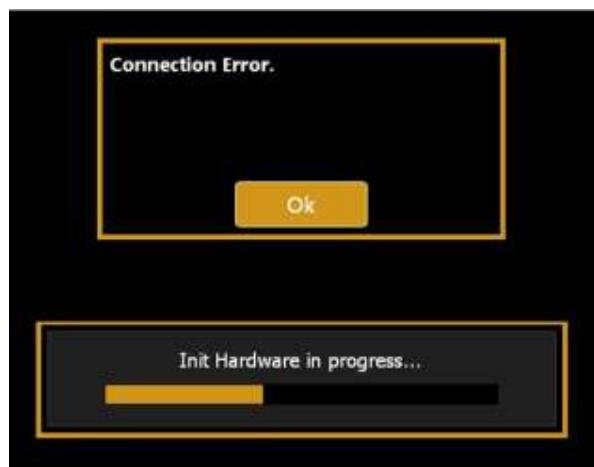

Figure 101
**12.** If you see the message of Figure 101, please switch off your Aladdin and turn it on again. Your Aladdin should now works fine.